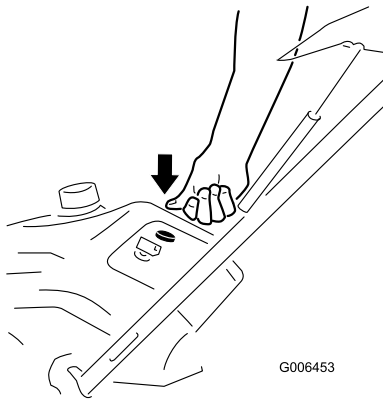

Figure 16
3. Firmly push in the primer with your thumb as indicated by the chart below, holding in the primer for a second before releasing it each time (Figure 16).